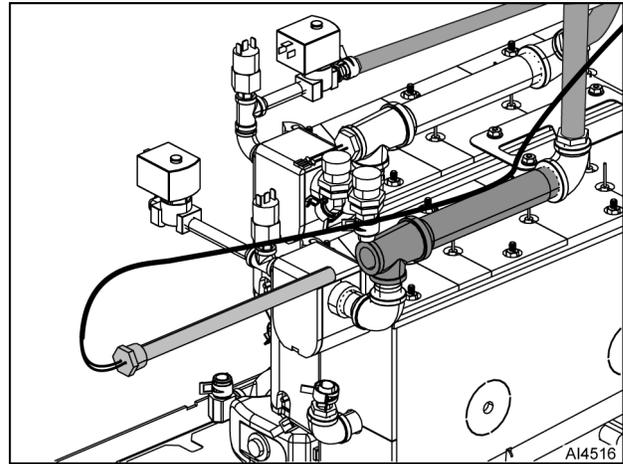

Fig. 39
7. Remove super-heater element from pipe (Fig. 39).